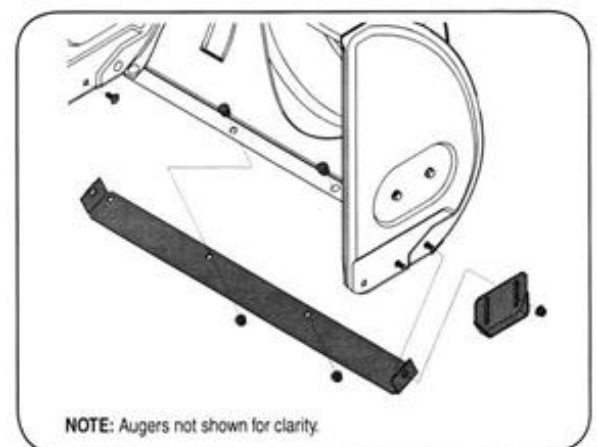

Figure 10
2. Reassemble new skid shoes with the four carriage bolts (two on each side) and hex flange nuts. See Figure 10.
2. Reassemble new shave plate, making sure heads of carriage bolts are to the inside of housing. Tighten securely. See Figure 10.